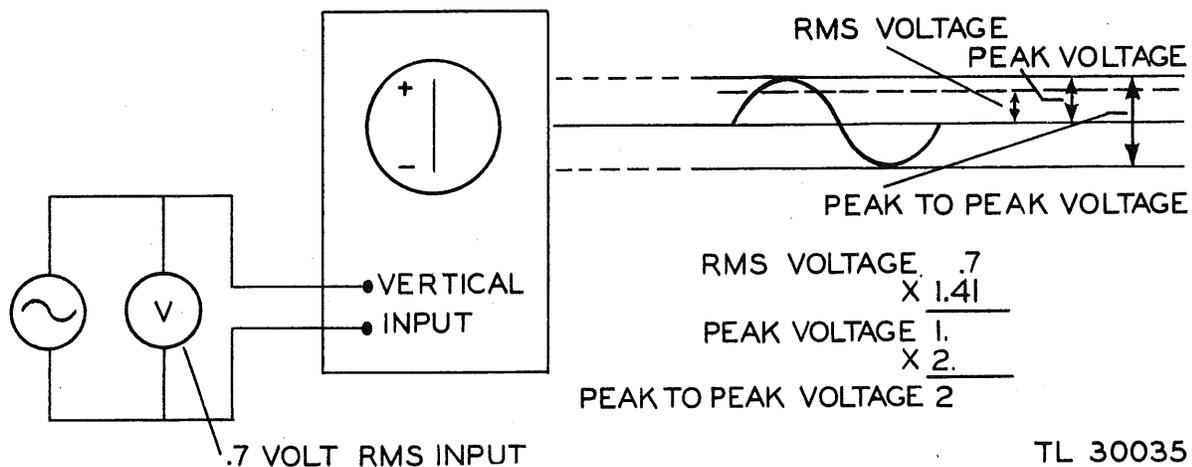

Figure 21. Rms, peak, and peak-to-peak voltages.
c. Figure 21 illustrates the relationship between rms, peak, and peak-to-peak voltage. According to this figure, the sine-wave output of an audio oscillator is applied to the vertical-amplifier terminals of the test oscilloscope. The output of the audio oscillator is adjusted for 0.7 rms volts as measured by the a-c voltmeter. The vertical-gain control of the test oscilloscope is then operated to obtain an overall peak-to-peak deflection of 1 inch. The peak voltage is 1 peak-volt. The peak-to-peak voltage is 2 volts. That is to say, 0.7 volts rms is equivalent to 2 volts peak-to-peak.